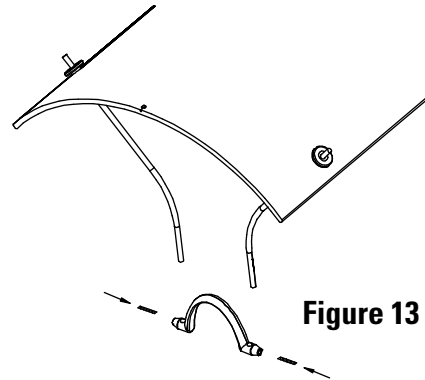

Figure 13
- B. Slide casting brackets onto the lens bracket on both ends of the lens. Tighten down the four set screws. (Fig. 13)